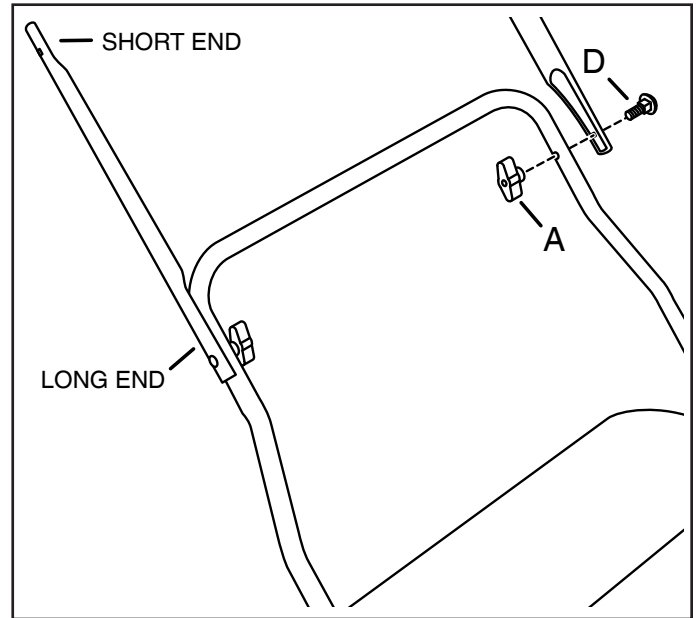

FIGURE 3
STEP 3: (SEE FIGURE 3)
- Attach the long end of each of the middle handle tubes to the lower handle tube using 2 carriage bolts (D) and wing knobs (A).